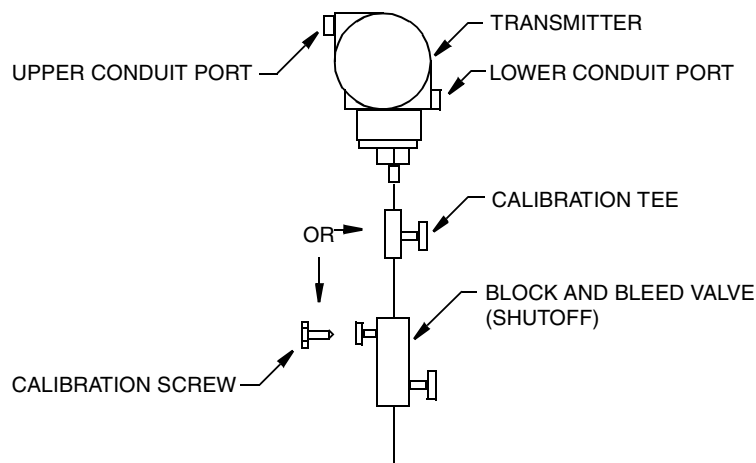

Figure 12. Typical Transmitter Piping (IGP10 shown)
Figure 12 shows a typical piping application. Calibration supply pressure can be applied via a calibration tee or calibration screw. The lower conduit port can be used as a drain for moisture buildup in terminal compartment. For Model IAP20, IGP20, IGP25, and IGP50 Transmitters, tighten the process connector bolts to a torque of 61 N·m (45 lb·ft) and drain plugs and vent screws to a torque of 20 N·m (15 lb·ft).
2. IAP10, IGP10, IGP25, and IGP50 Transmitters mounted directly to process piping or a pressure vessel as shown in Figure 12, could require the use of a shutoff valve (shown) to comply with the requirements of ASME Power Piping Code B31.1 and Chemical and Petroleum Piping Code B31.3.